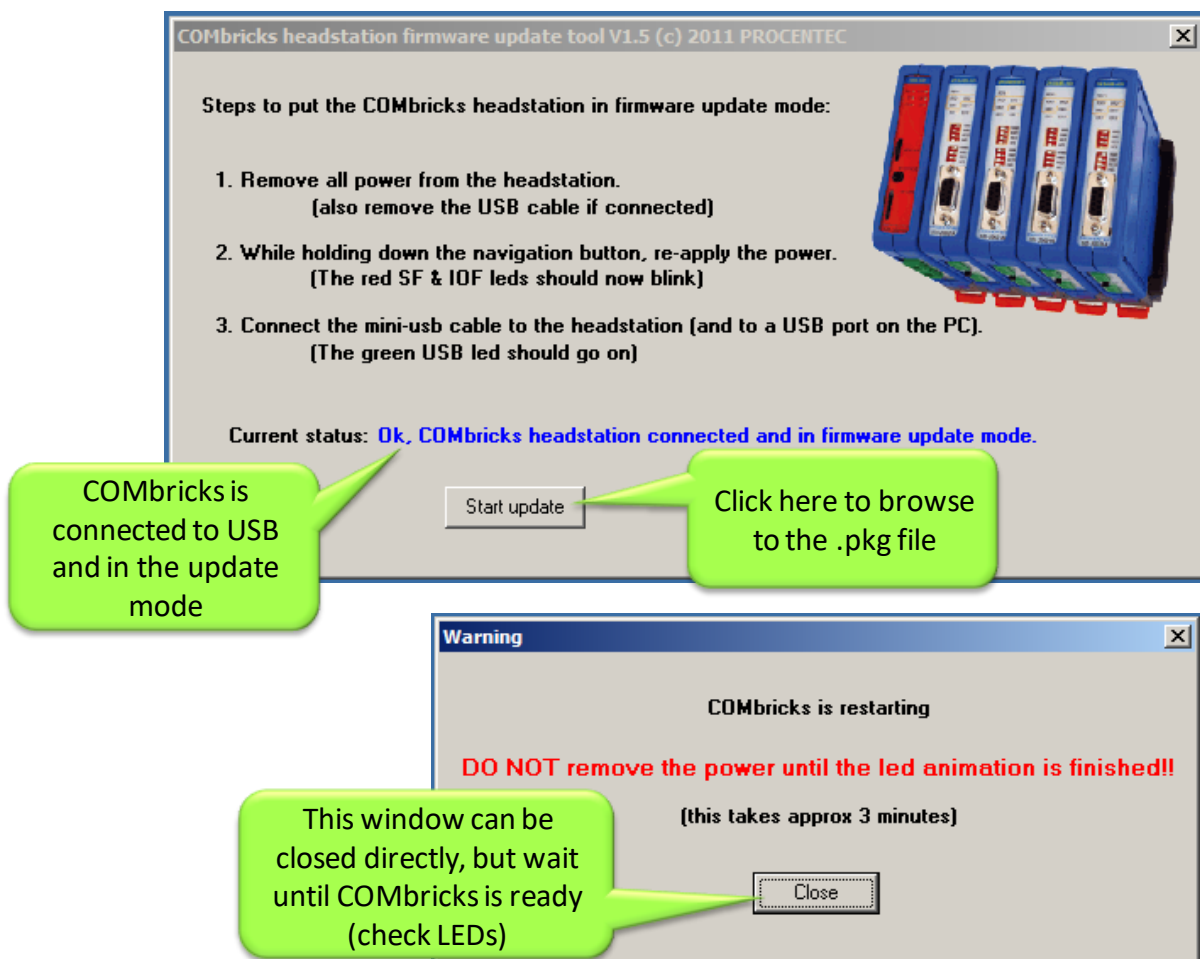

Fig. 117 - Firmware update tool
- STEP 4:** Start the firmware update tool. If the tool detects the Head Station in the firmware update mode, the "Start update" button is enabled (see **Fig. 117**).